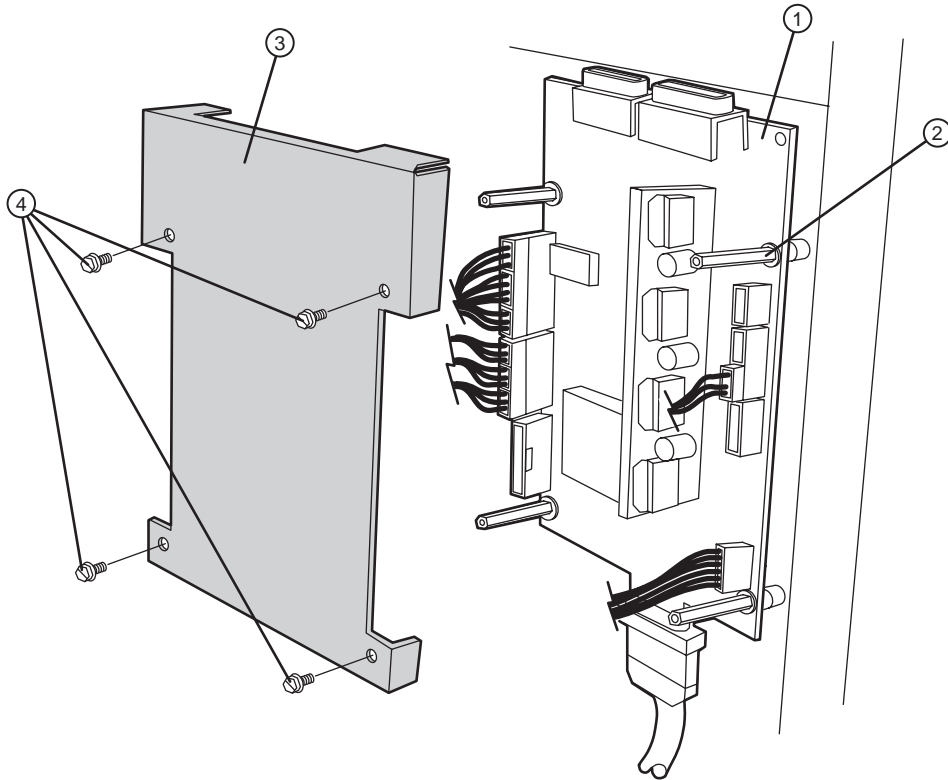

Figure 1-19 Attaching the bridge/buffer interface board.
1. Using the four standoffs and nylon washers, install the Bridge/buffer interface board on the right wall of the imagesetter. Refer to Figure 1-19.
The interface board should be positioned so that the cable connector appears on the lower right. Refer to Figure 1-19.
9. Using the four (4) sems screws provided, attach the bridge/buffer housing cover (see Figure 1-19).